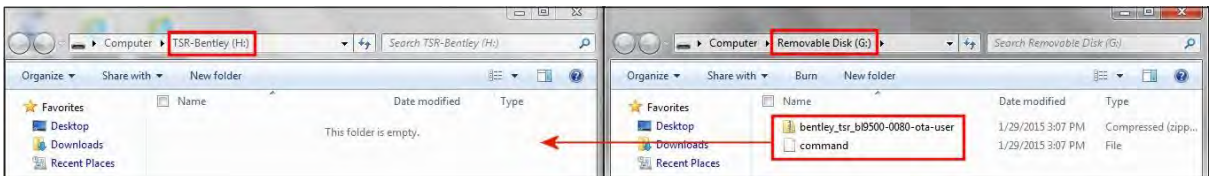

Figure 12a
7. The memory stick (Removable Disk (?)) contains two files these two files require transferring to the TSR-Bentley. Transfer the two files, *drag and drop*, from the *Removable Disk (?)* to the *TSR-Bentley (?)*. (See Figure 12a,b and c)